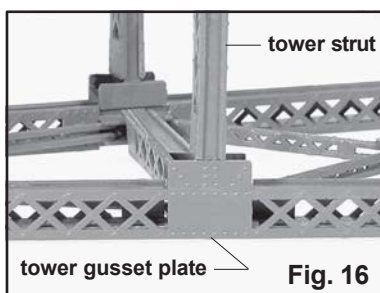

Fig. 16
b. Check that the ends of the lattice on the tower strut will butt against the tower gusset plate on the bent assembly. See fig. 16. It will probably be necessary to shorten the tower strut for correct fit. Start by trimming off a small amount of the outside tab then, if necessary, file down some of the edge of the half or full gusset plate. Also, see the **Tip** in d. below.
d. Position each tower strut as follows; 1. so it is aligned with the double row of rivets on the tower gusset plate. See fig. 16; 2. with the bent assembly flat on the work surface, place a square on the work surface and check